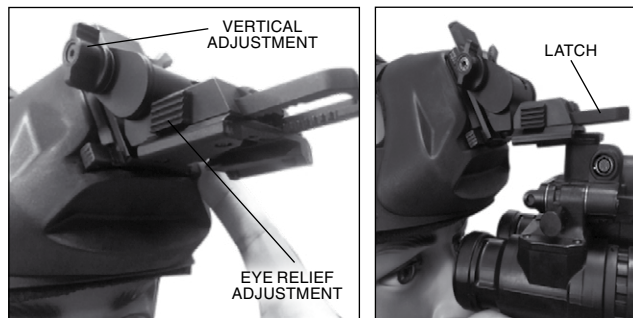

FIGURE 2.15. HEADMOUNT/HELMET MOUNT OPERATION
- (3) Align the headmount/helmet mount latch to the headmount socket (Figure 2.15.). Insert the Helmet Fixture into the Socket of the mount.
- (4) Set your eye relief by depressing the eye relief adjustment (Figure 2.15.) and move the goggles back toward your eye until the eyecup comfortably seals around the eye.
- (5) Turn the goggles ON.
- (6) Readjust the vertical adjustment (Figure 2.15.) of the head-mount until the goggles is properly aligned with your eye.